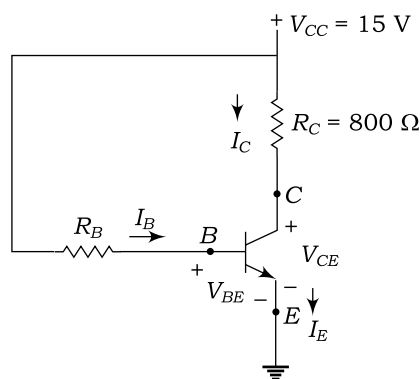

Fig. 2.115
42. Determine the biasing resistance R_B of a biasing circuit of an NPN transistor as depicted in Fig. 2.115 when the base current is 0.25 mA . Calculate the collector current, collector to emitter voltage and stability factor. Assume $V_{BE} = 0.65 \text{ V}$ and $\beta = 85$.